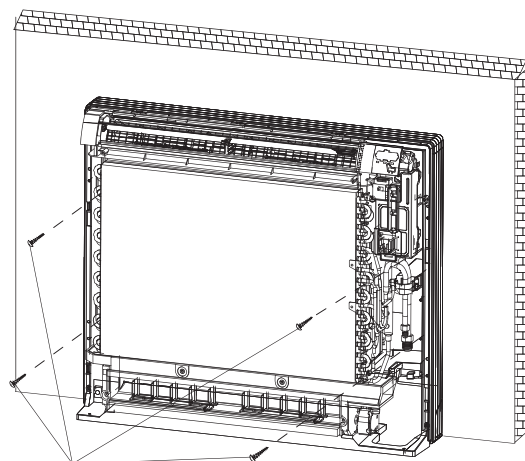

Fig.5-7
- Using 4 screws to secure the indoor unit. (Refer to Fig.5-7)